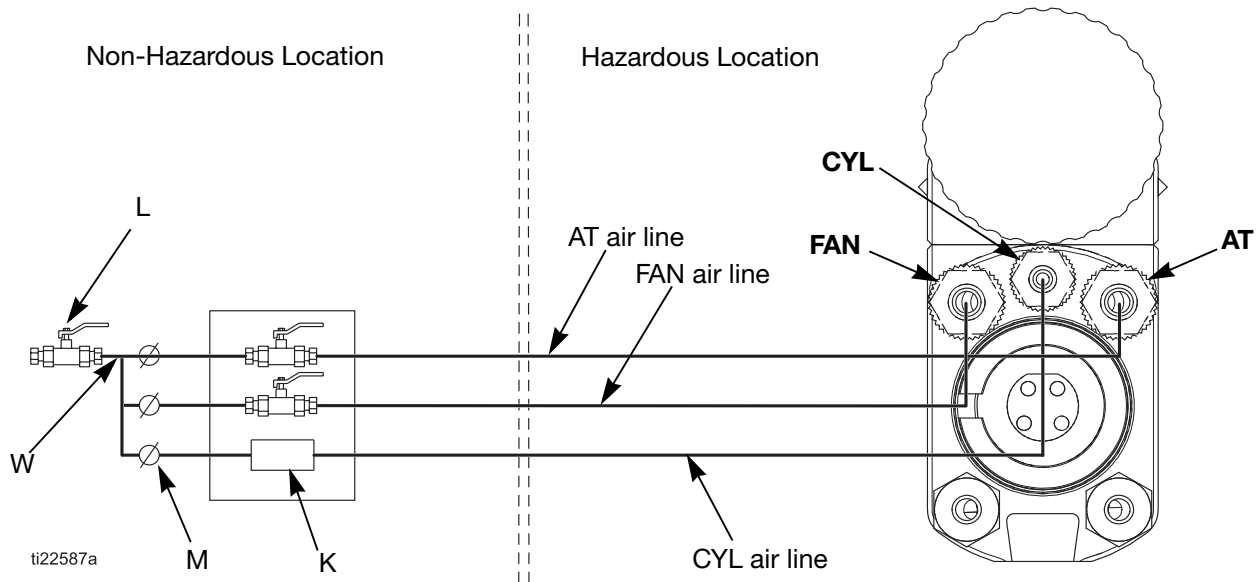

FIG. 11 Air Line Schematic
1. Install a bleed-type air valve (L) on the main (W), fan (FAN), and atomization (AT) air lines to shut off all air to the gun. See FIG. 11.
1. Connect the air lines as shown in FIG. 11, page 17.
Connect the air lines as shown in FIG. 11, page 17.